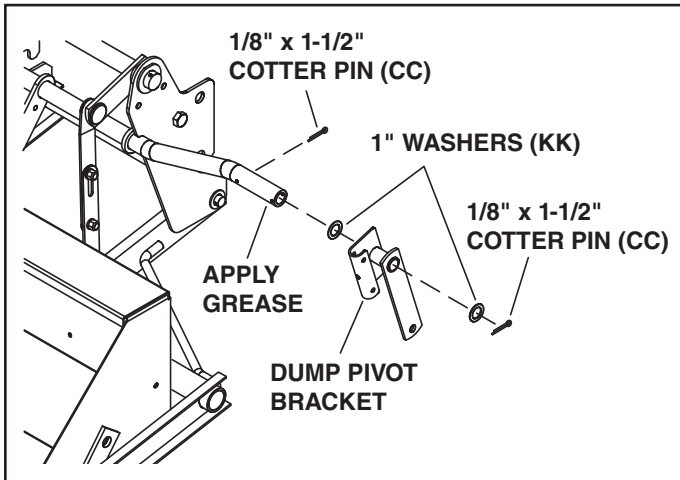

FIGURE 8
### STEP 9: INSTALL DUMP PIVOT BRACKET (SEE FIGURE 8)
- Install a 1/8" x 1-1/2" cotter pin (CC) to the inside hole in the shaft shown in figure 8, and then install a 1" washer (LL) onto the shaft. Apply grease to the end of the shaft and install the dump pivot bracket assembly onto the shaft. Install a 1" washer (KK) onto the shaft and secure it using a 1/8" x 1-1/2" cotter pin (CC).